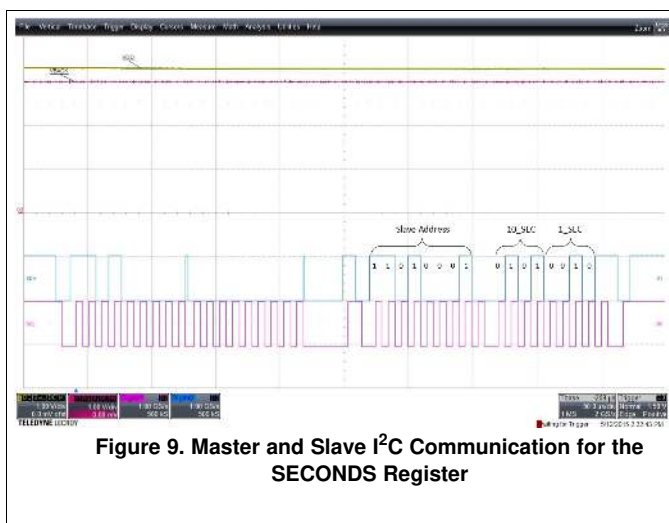

Figure 9. Master and Slave I2C Communication for the SECONDS Register
The report details the read-back of the SECONDS register. Figure 9 depicts the first condition that will be used as a benchmark to compare the values taken from the SECONDS register in the BQ32002, to the internal PC time of the oscilloscope. In this example two modes of operation are demonstrated.
**Condition 1** The main power supply,  $V_{CC}$ , is greater than the backup power supply,  $V_{BACK}$ , and the internal reference voltage,  $V_{REF}$ . In this mode, the device's internal registers are fully operational with READ and WRITE access. Analyzing Figure 9, the known register values are compared to the system clock; in this case, the PC clock which is shown at the bottom of the screen capture.